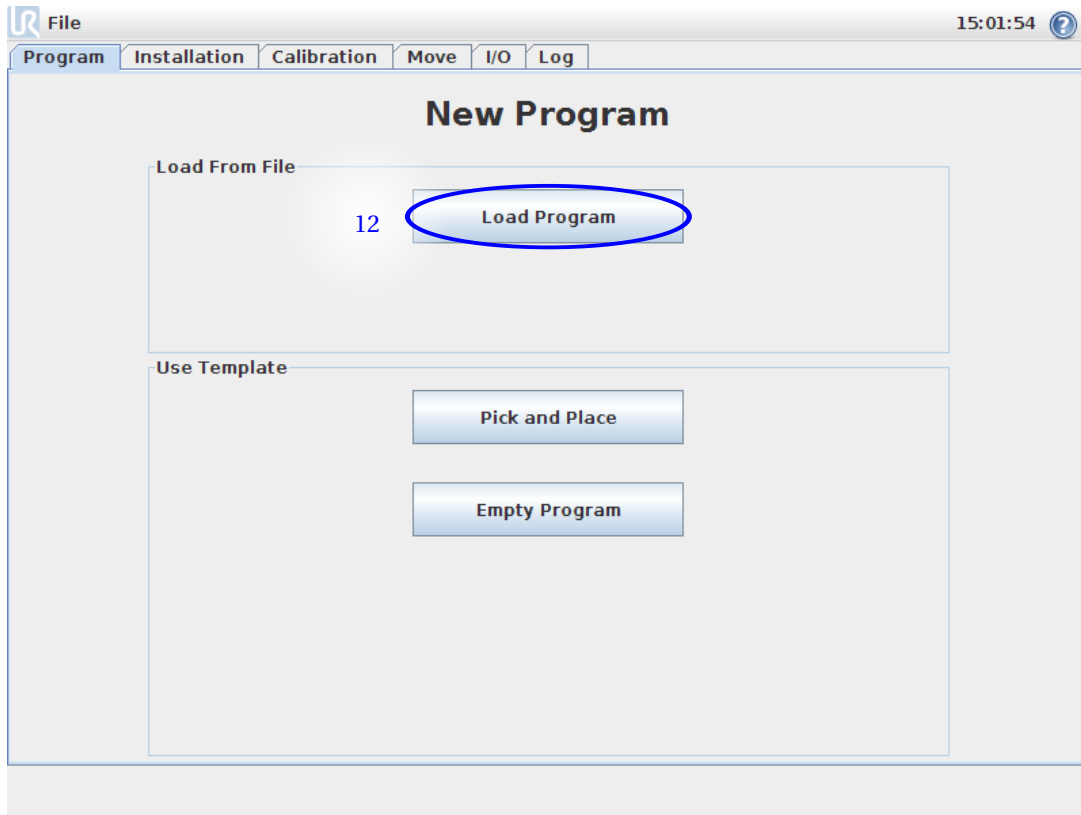

Figure 2.14: Load the program which are going to be corrected
- (12) Load the program to be corrected, see figure 2.14.